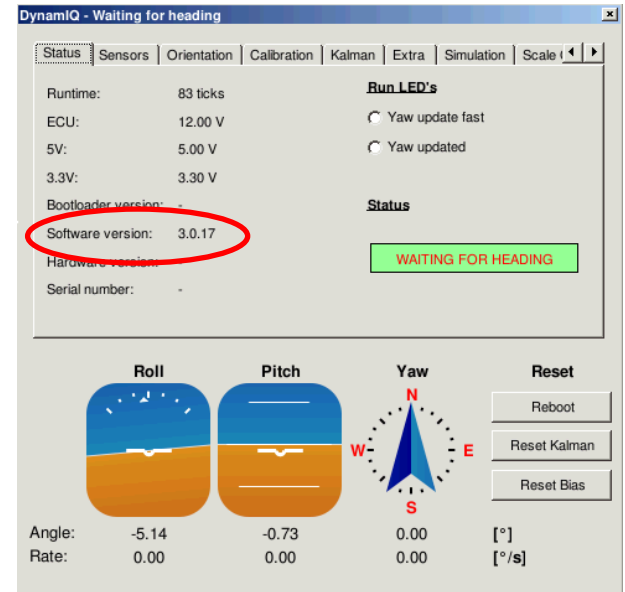

Figure 11 DynamIQ Status.
- g. Check software version (Figure 11).